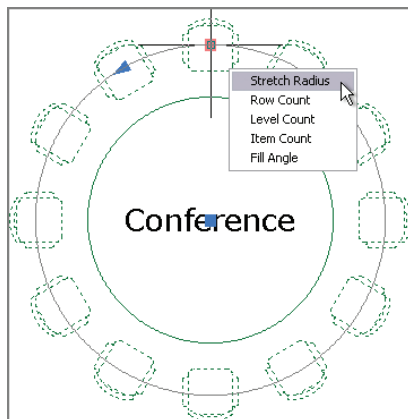

FIGURE 4.22 Editing a polar array with its grips
9. Click any one of the chairs to select the polar array. Hover the cursor over the base point grip, and choose Stretch Radius (see Figure 4.22). Type **5'9"** (or **175** in metric); then press Enter and Esc. The chairs more closely wrap around the smaller table.